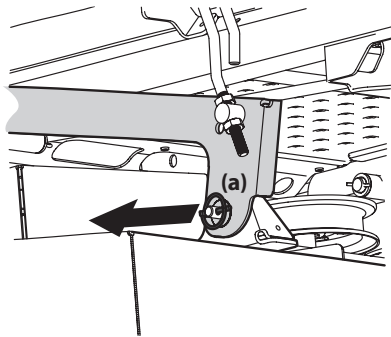

Figure 36
7. Locate the LH and RH deck release pins (a) on each side of the deck. Pull the release pins outward and release the deck from the LH and RH deck lift arms. See Figure 36.
5. Pull the deck release pins outward and maneuver the deck as necessary to align the holes in the deck lift arms with the pins. Refer to Figure 36.